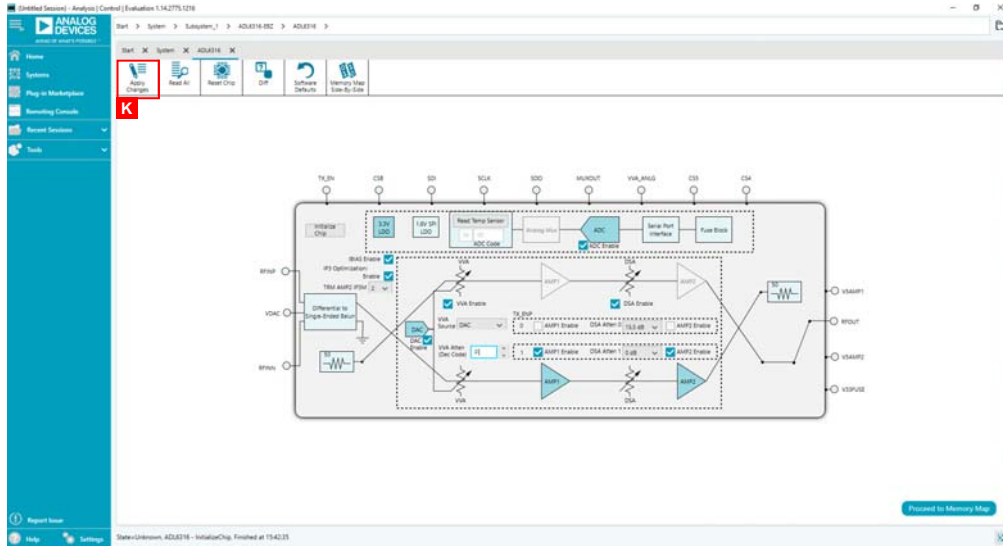

Figure 7. ADL6316-EVALZ ACE Chip View After Chip Initialization
4. After changing the block in the ACE software as directed in Step 3, click **Apply Changes** (Label K, see Figure 7) to update the ADL6316.